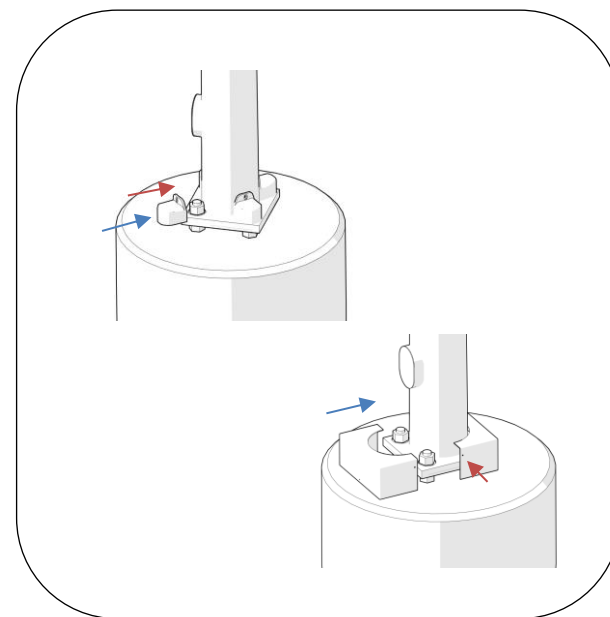

Fig. 2 – Install Nut Covers/Base Cover
4. Install the nut covers or the base cover as shown in Fig. 2. Repeat for remaining poles.